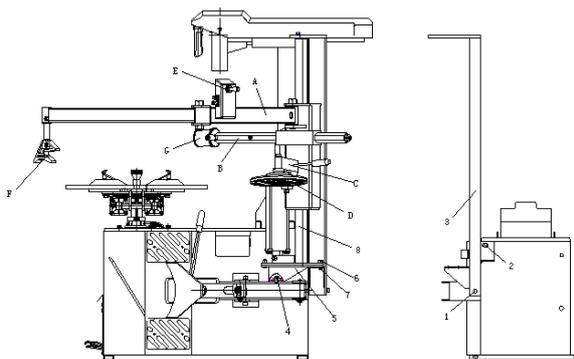

Fig 19
- 2) Install the column 3 with screw 1 and 2; install the support 5 of the auxiliary arm with screw 4; install the help arm 8 with nut 6 and screw 7. (Fig 19)
Parts of help arm are illustrated as Fig 19.